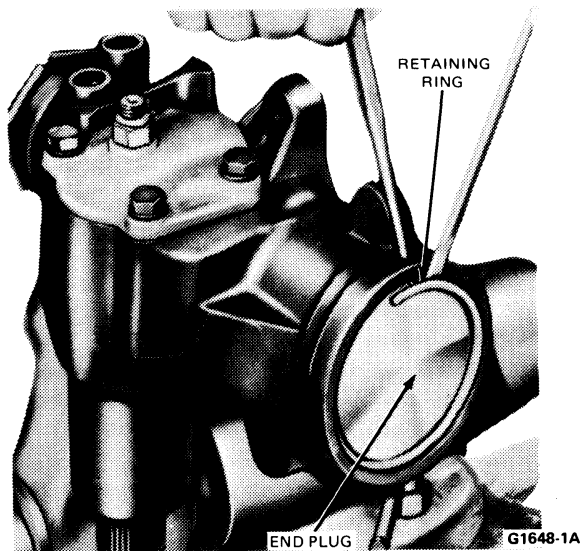

FIG. 18 Removing End Plug Retaining Ring
1. Mount the steering gear in a vise (Fig. 18).
3. Working through the hole in the housing (Fig. 18)